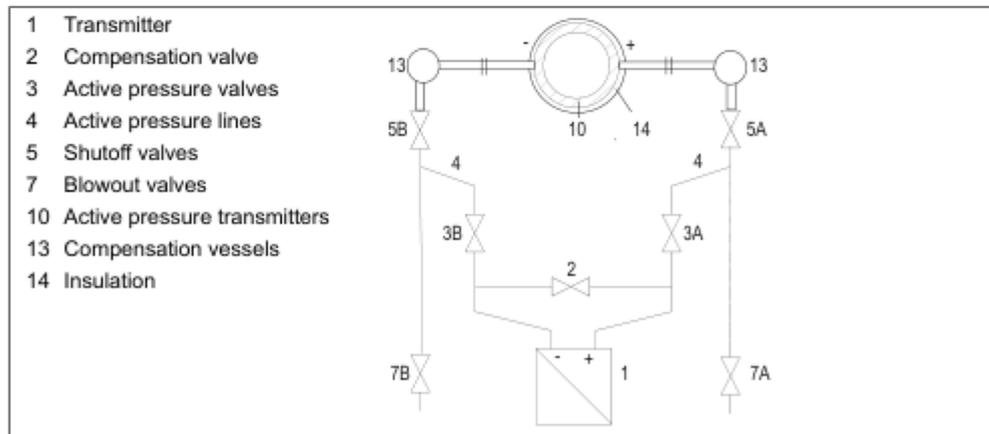

Figure 43 Measuring vapor
1. Open both shutoff valves (5, Figure 43, pg. 102) at the pressure taps
2. Open the compensation valve (2).
3. Wait until the vapor in the active pressure lines (4) and in the compensation vessels (13) has condensed.
4. Open the active pressure valve (3A) and the vent valve at the high pressure chamber of the transmitter (1) slightly until air-free condensate emerges.
6. Open the vent valve at the low pressure chamber of the transmitter (1) slightly until air-free condensate emerges.
9. Close the vent valve at the low pressure chamber of the transmitter (1).